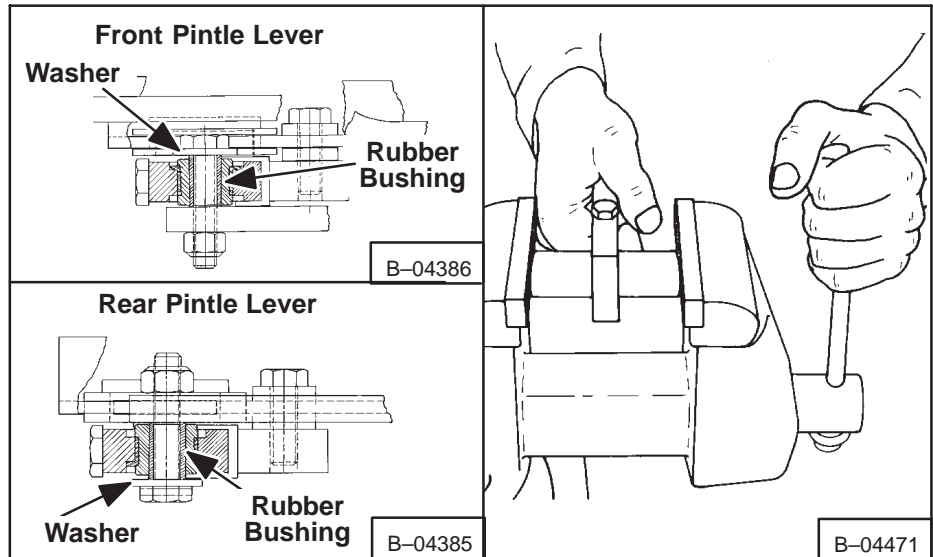

Fig. 3-25 Installing Bushings
3. Install the new runner bushings, using two sockets and a vise (Fig. 3-25) in the pintle lever.